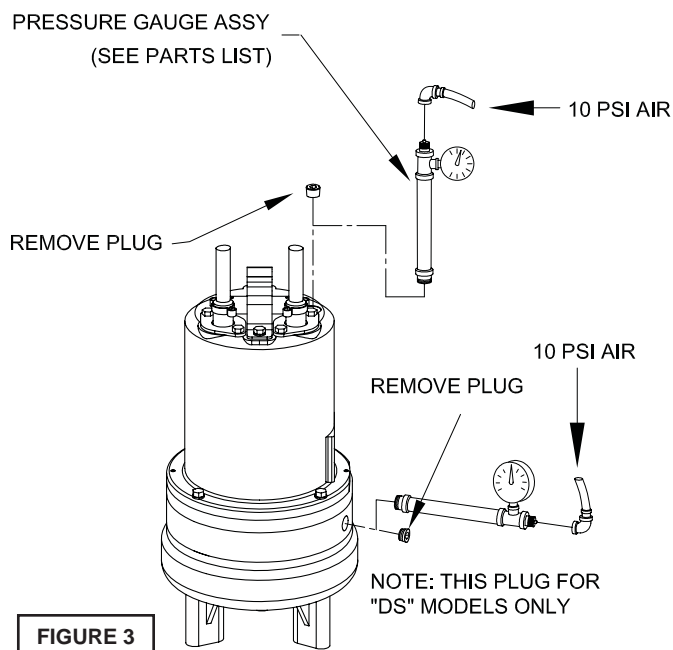

FIGURE 3
Pumps that have been disassembled, Motor Housing- If the pump has been disassembled, the oil should be drained before a pressure test, as described in section F-1.1. Remove pipe plug (39) from motor housing (6). Apply pipe sealant to pressure gauge assembly and tighten into hole (See Figure 3). Pressurize motor housing to 10 P.S.I. Use soap solution around the sealed areas and inspect joints for "air bubbles".
The pressure test may be done with the oil at its normal level. Remove pipe plug (39) from motor housing (6). Apply pipe sealant to pressure gauge assembly and tighten into hole (see Figure 3). Pressurize motor housing to 10 P.S.I. Use soap solution around the sealed areas above the oil level and inspect joints for "air bubbles". For sealed areas below the oil level, leaks will seep oil.